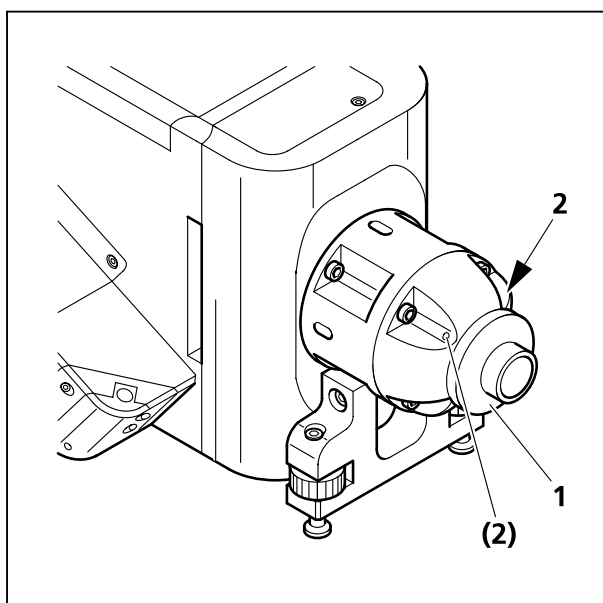

Fig. 3-4 Removal of adapter piece
- Release the two fixing screws (Fig. 3-4/2) at the camera adapter then take the adapter piece (Fig. 3-4/1) out.
- Tighten the two screws (Fig. 3-4/2) at the camera adapter.